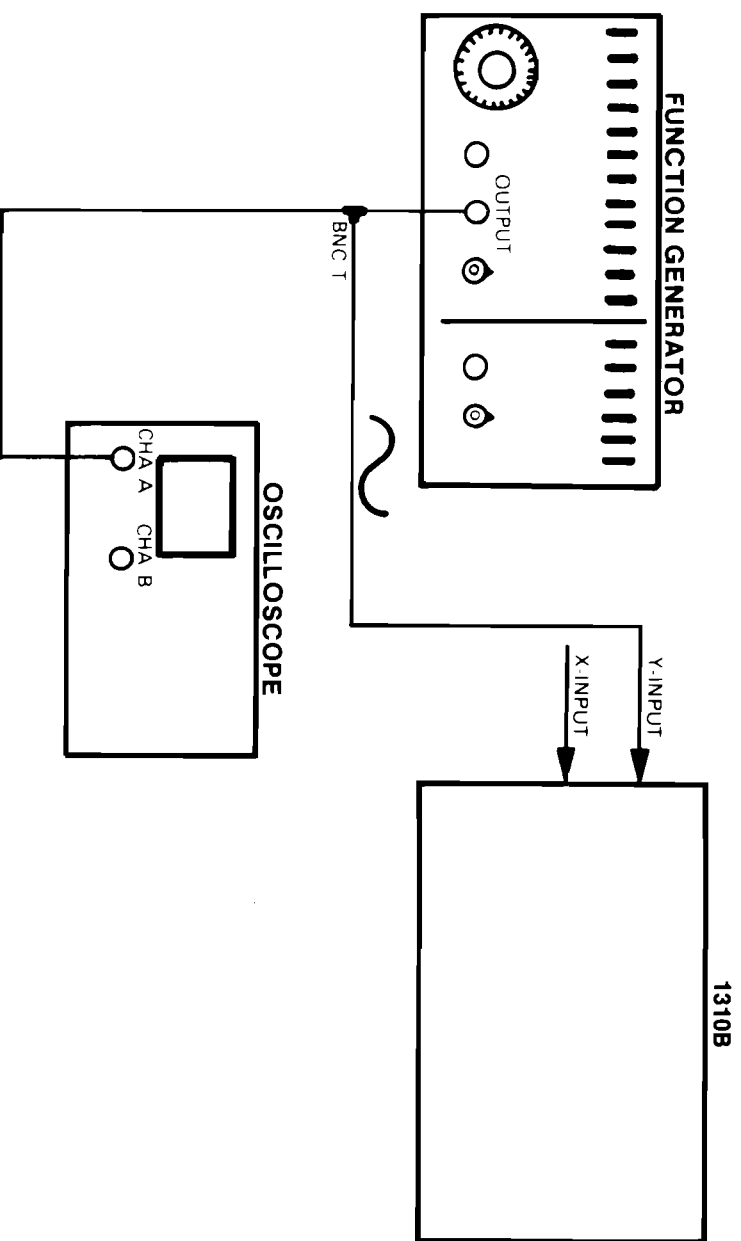

Figure 5-7. Gain-set Adjustment Test Setup
- a. Connect equipment as shown in figure 5-7.